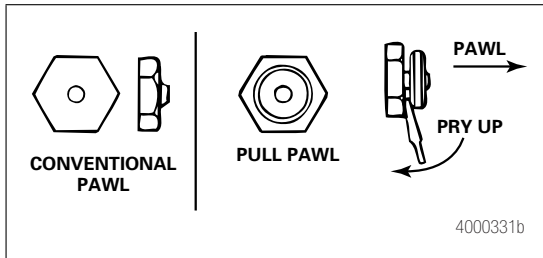

Figure 4.3
3. Disengage the pull pawl. Use a screwdriver or equivalent tool to pry the pull pawl at least 1/32-inch (0.8 mm) to disengage the teeth. Figure 4.3.
- If the slack adjuster has a conventional pawl: Remove the pawl. Figure 4.3.